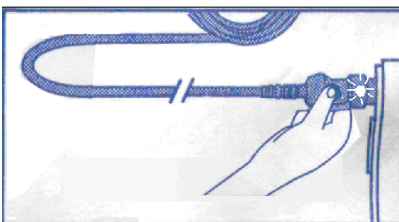

Figure 7-2: Rezeroing the system
- 2) With the catheter connected to the IUP cable, momentarily press the re-zero button on the pressure cable (See Figure 7-2). The green light on the cable will flash for five seconds.